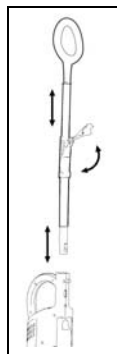

Fig. 3
3. Hold the telescopic tube and push it in to the top of the handle of the stick vac. (Fig. 3)
4. Once the telescopic tube is inserted, you can adjust the height of the handle by moving the locking latch past 90 degrees to the open position. Holding the handle, extend the tube to the height that is right for you and then close the latch to the locked position. (Fig. 3)